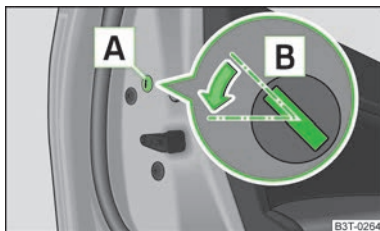

Fig. 16
- Remove the panel **A** » Fig. 16.